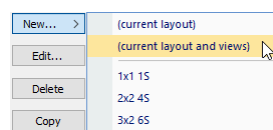

Figure 196 – List of layouts for new hanging protocol
2. Click the **New...** button in the displayed **Hanging protocol manager** dialog, and select the **(current layout and views)** item in the displayed menu (see Figure 196).